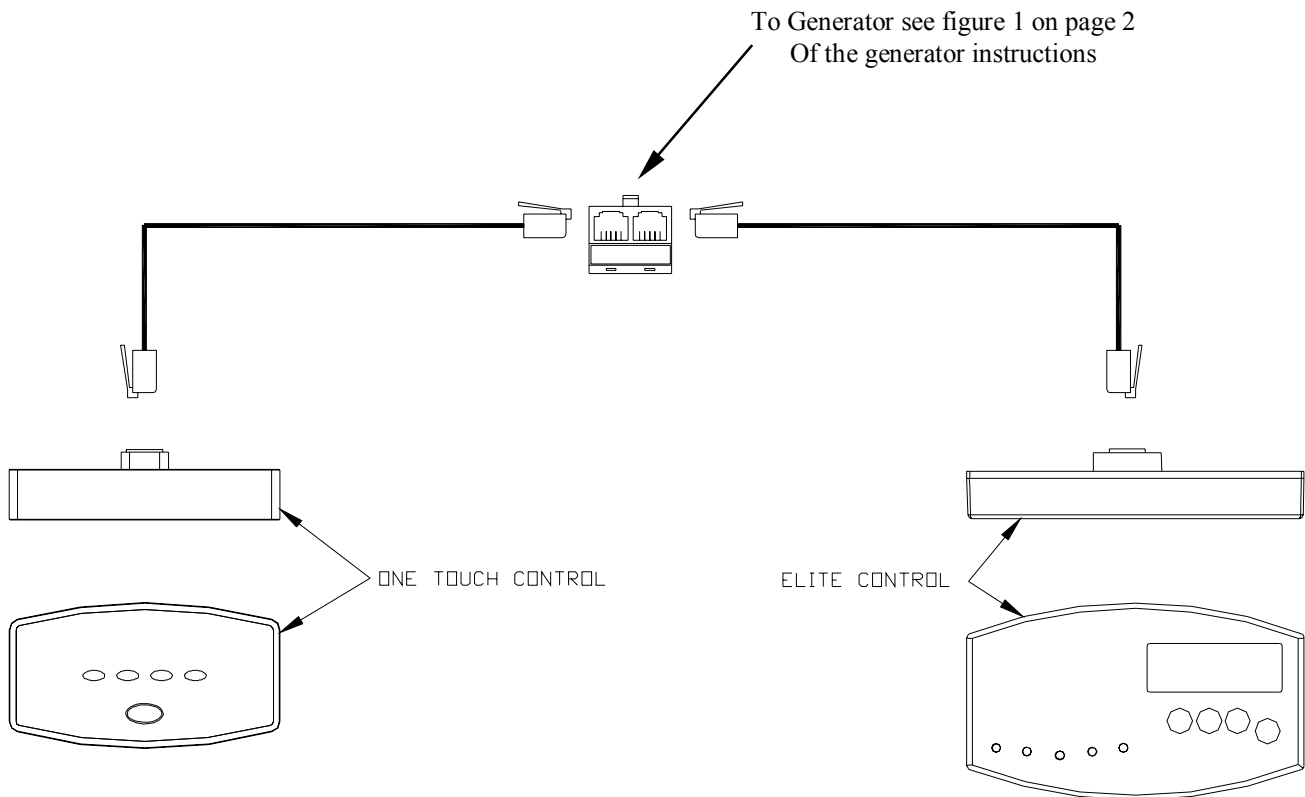

Figure 9
4. Run cables from the controls to the steam generator and carefully connect to the phone jack splitter just installed to the generator. Either control cable can connect to either of the two plugs, see figure 9. **DO NOT** pinch, stretch, nail, wedge etc. the control cable, any damage to the control cable will result in the control not working properly and could result in damage to the control itself. If the control is not installed immediately, protect the end connectors with tape or some other kind of shielding material.